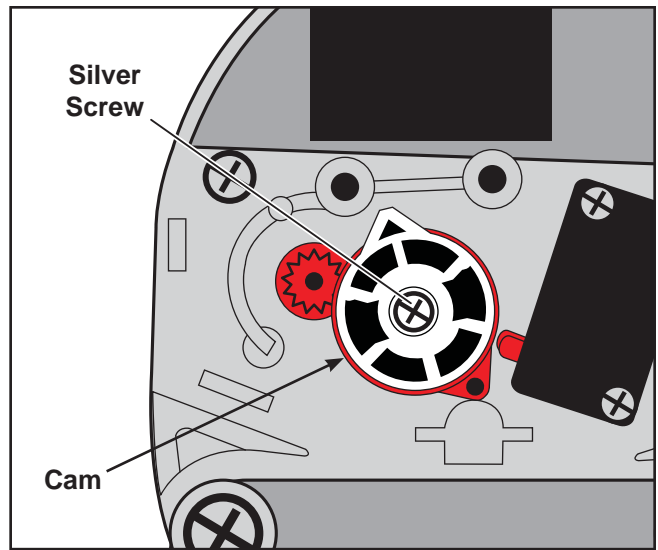

Figure 5
A. Using a #2 Phillips screwdriver, remove the silver screw securing the cam to the elevation motor. See Figure 5.